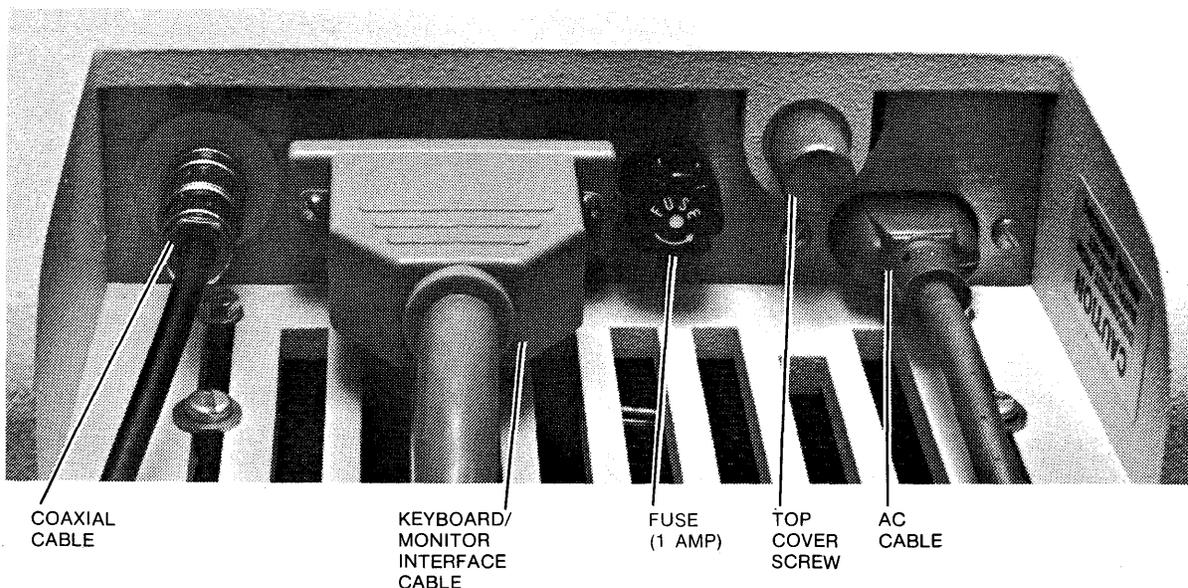

FIGURE 4-1. MONITOR CONNECTOR PANEL
2. Disconnect the external AC, coaxial, and keyboard/monitor interface cables from the back of the monitor (Figure 4-1).
3. Remove the external fuse shown in Figure 4-1.
4. Loosen the top cover screw (Figure 4-1).